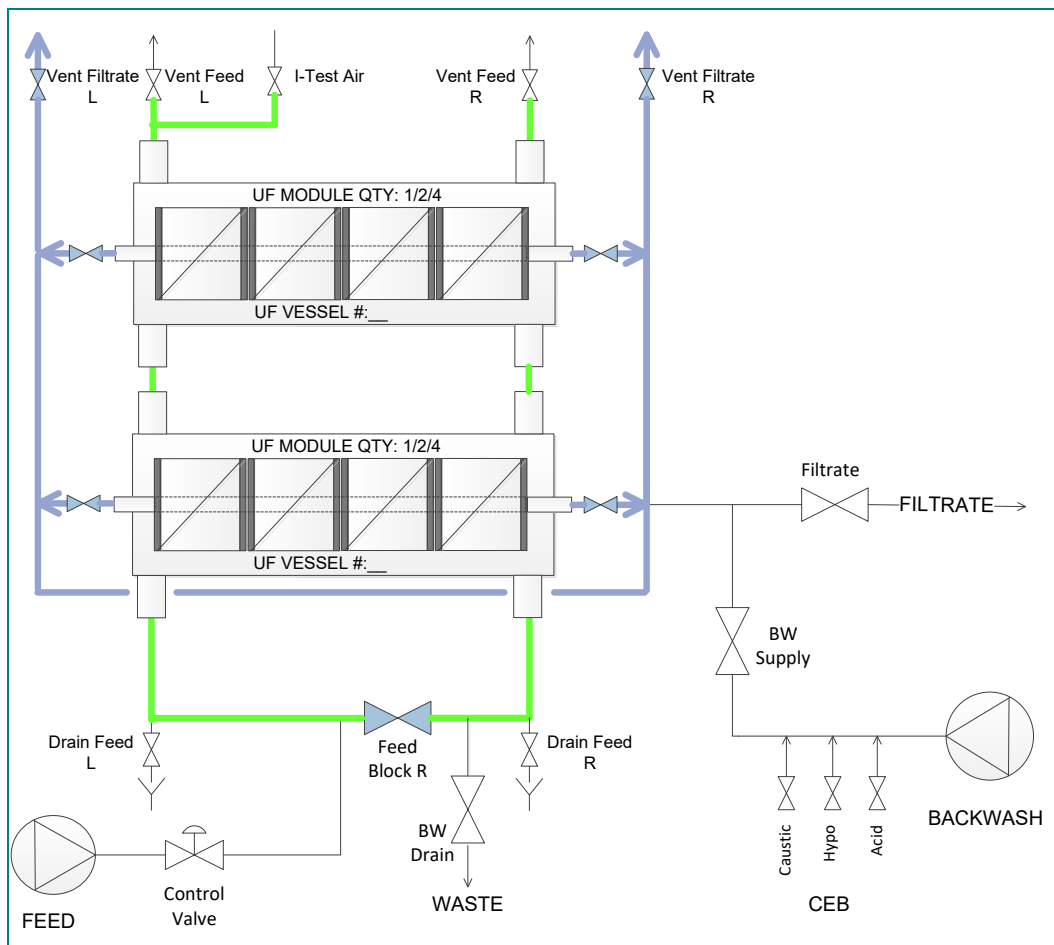

Figure 11.4-2 - Pressure hold phase and pressure measurement for integrity test from feed side – exemplary configuration
- 2. Once the high-pressure side has been completely emptied of water and a stable pressure of 1 bar (14.5 psi) has been reached (and maintained for at least 1 minute), close the air supply to the high-pressure side (see Figure 11.4-2).